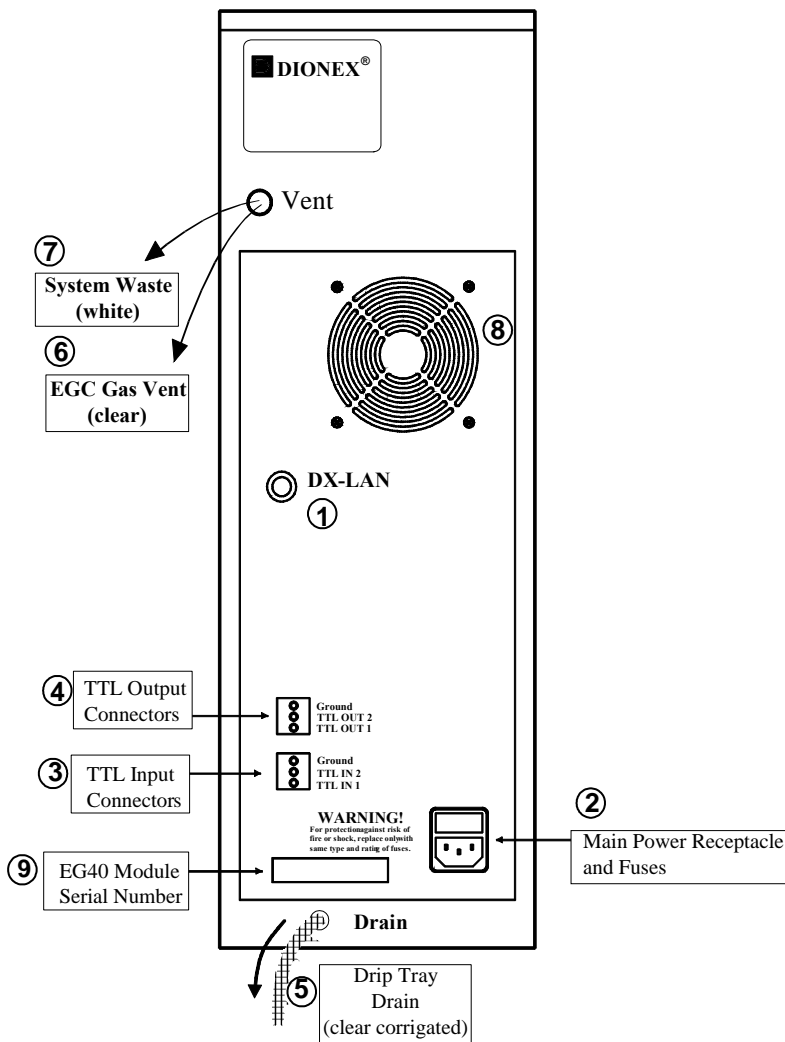

Figure 7
- DX-LAN Connection:** Attach a connector “T” to the DX-LAN connector at the rear panel of the EG40. Connect the DX-LAN cable (P/N 960404) from the PeakNet workstation to the BNC connector (see Figure 7, “EG40 Module Rear Panel”).